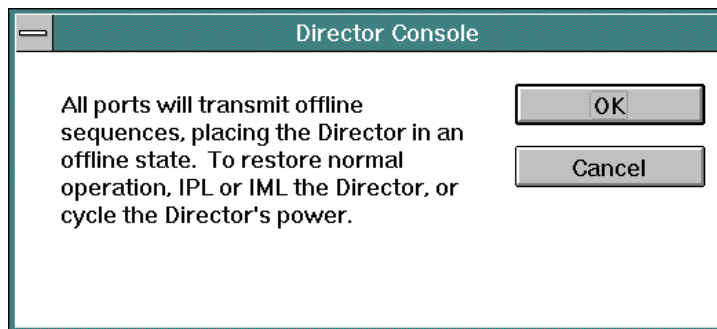

Figure 168. Set Director Offline Message Box
- At the *LIC Versions* dialog box, click the *Set Offline* button. The message box shown in Figure 168 appears.